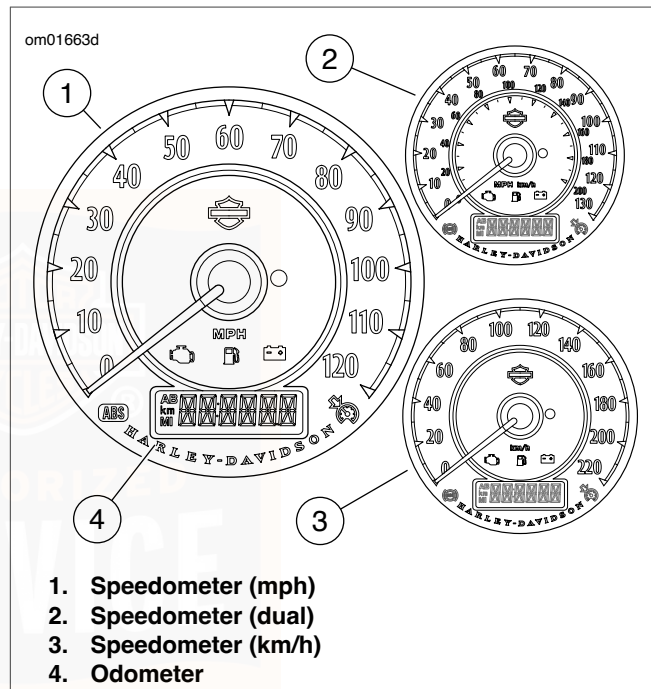

Figure 7. Instruments: All except XL1200CX
See Figure 7. The speedometer (1) registers miles per hour (U.S. models), kilometers per hour (international models) or in certain markets, displays both mph and km/h.
See Figure 7. The odometer window (2) is located in the speedometer face.